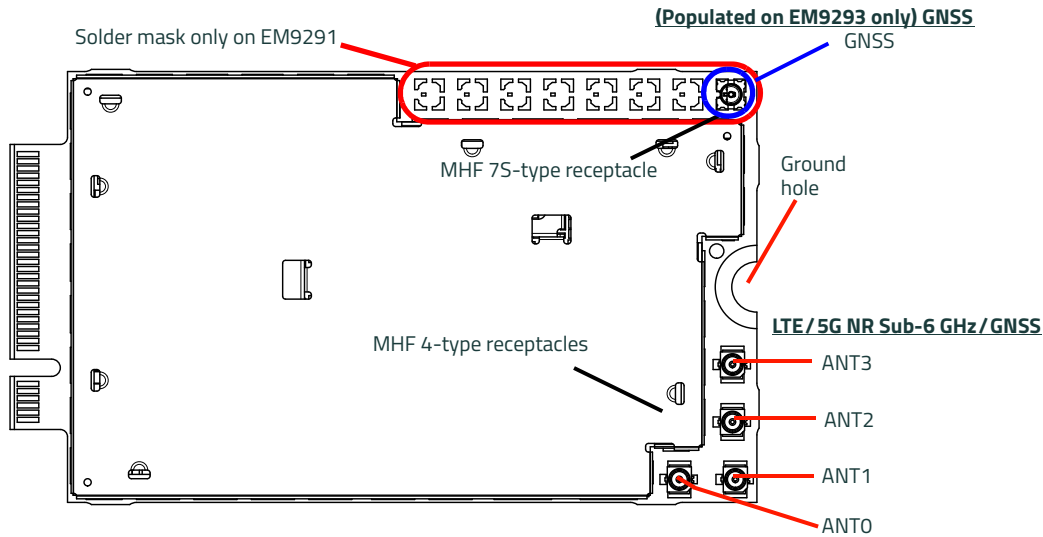

Figure 3-1: EM92XX Module RF Receptacles
- Connect to system ground using the ground hole shown in Figure 3-1 on page 40.